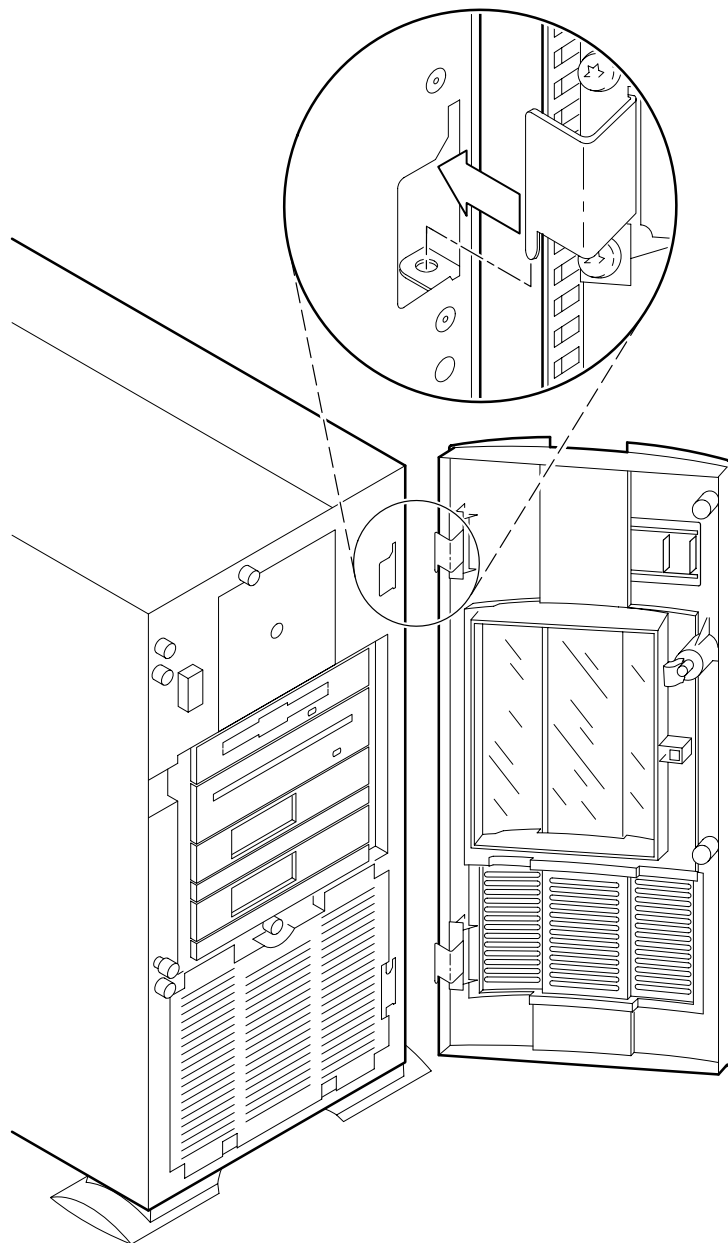

Figure 2: Installing the computer front door
- a. Locate the computer front door. On the right side of the door, insert the door hinges into the hinge slots in the computer chassis. See Figure 2.